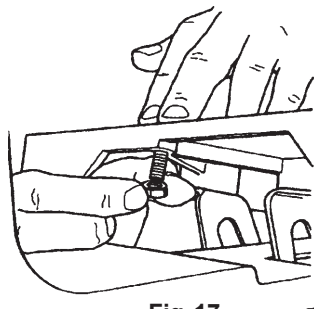

Fig. 17
16. Attach a hex nut (92) to the socket head screw, as shown in Fig. 17.